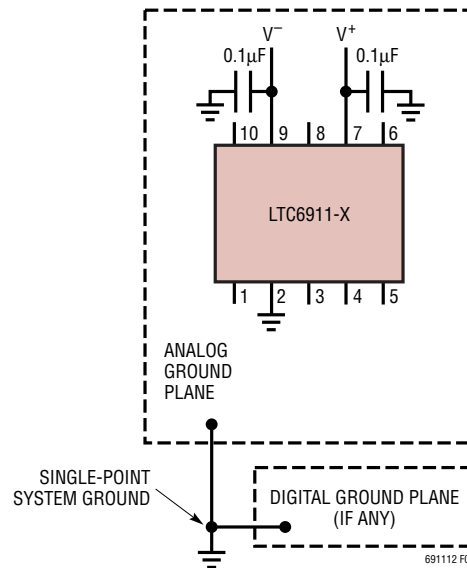
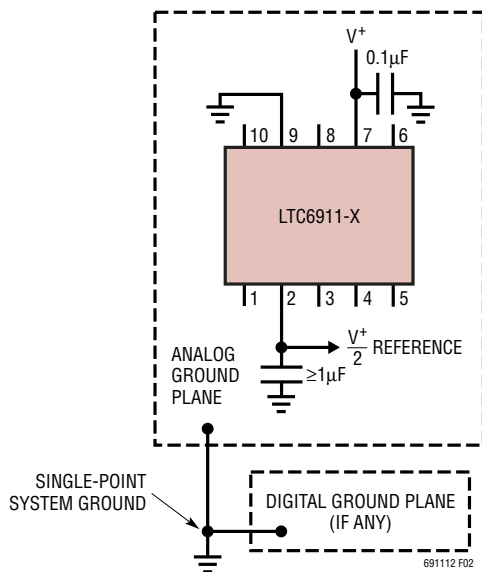

Figure 3. Dual Supply Ground Plane Connection
Figure 2. Single Supply Ground Plane Connection
**AGND (Pin 2):** Analog Ground. The AGND pin is at the midpoint of an internal resistive voltage divider, developing a potential halfway between the  $V^+$  and  $V^-$  pins, with an equivalent series resistance to the pin of nominally  $5k\Omega$  (Figure 1). AGND is also the noninverting input to both the internal channel A and channel B amplifiers. This makes AGND the ground reference voltage for the INA, INB, OUTA and OUTB pins. Recommended analog ground plane connection depends on how power is applied to the LTC6911-X (see Figures 2, 3 and 4). Single power supply applications typically use  $V^-$  for the system signal ground. The analog ground plane in single supply applications should therefore tie to  $V^-$ , and the AGND pin should be bypassed to this ground plane by a high quality capacitor of at least  $1\mu F$  (Figure 2). The AGND pin provides an internal analog reference voltage at half the  $V^+$  supply voltage. Dual supply applications with symmetrical supplies (such as  $\pm 5V$ ) have a natural system ground plane potential of zero volts, which can be tied directly to the AGND pin, making the zero volt ground plane the input and output reference voltage for the LTC6911-X (Figure 3). Finally, if dual asymmetrical power supplies are used, the supply ground is still the natural ground plane voltage. To maximize signal swing
In noise sensitive applications where AGND does not directly tie to a ground plane, as in Figures 2 and 4, it is important to AC-bypass the AGND pin. Otherwise, channel-to-channel isolation is degraded and wideband noise will enter the signal path from the thermal noise of the internal voltage divider resistors that present a Thévenin equivalent resistance of approximately  $5k\Omega$ . This noise can reduce SNR by at least 3dB at high gain settings. An external capacitor from AGND to the ground plane, whose impedance is well below  $5k\Omega$  at frequencies of interest, will filter and suppress this noise. A  $1\mu F$  high quality capacitor is effective for frequencies down to 1kHz. Larger capacitors extend this suppression to lower frequencies. This issue does not arise in dual supply applications because the AGND pin ties directly to ground.